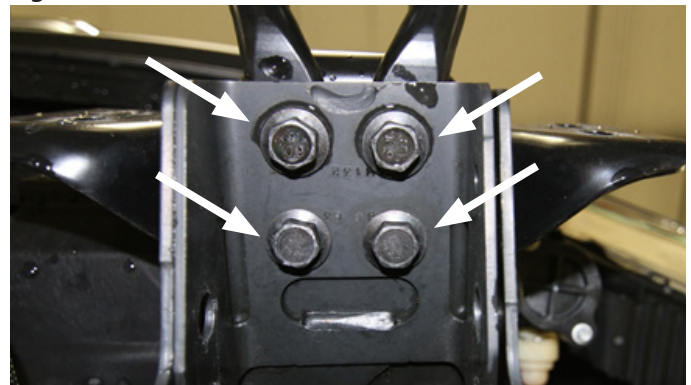

Figure 3
3. Using an 18mm socket wrench, remove the four (4) bolts from the tow hooks on both sides. (Figure 3)